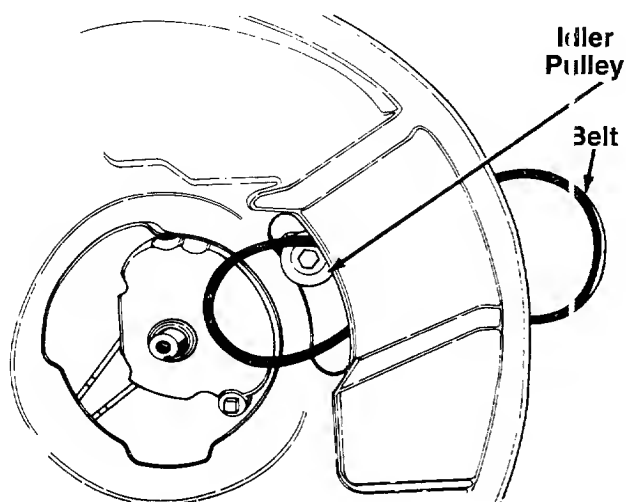

FIGURE 22.
7. Remove the belt from between the idler pulley and the belt guard on the idler pulley bracket. Refer to figure 22.
- A. Push the idler pulley up out of the way as shown in figure 22.
- B. Slide the belt in from the rear of the deck, and place it around the transmission pulley. See figure 22.